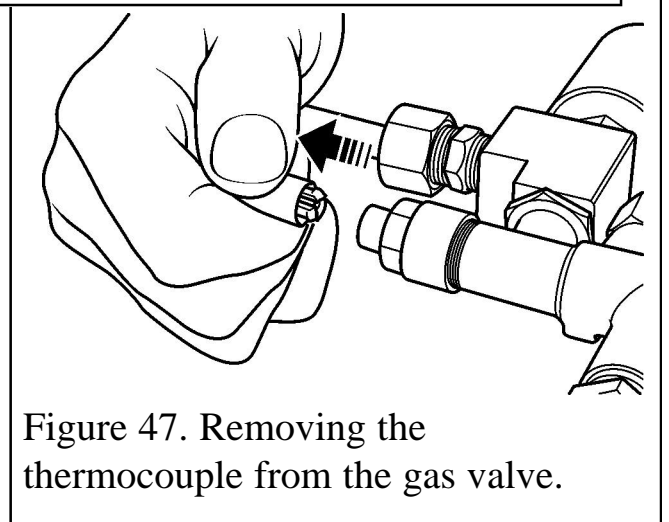

Figure 47. Removing the thermocouple from the gas valve.
3. Remove the thermocouple 'push on' connector to the gas valve. To do this, firmly hold the thermocouple connector and gently pull it clear of the gas valve (See figure 47). **Never hold the thermocouple wire when pulling.**
3. Remove the thermocouple 'push on' connector to the gas valve. To do this, firmly hold the thermocouple connector and gently pull it clear of the gas valve (See figure 47). Never hold the thermocouple wire when pulling.